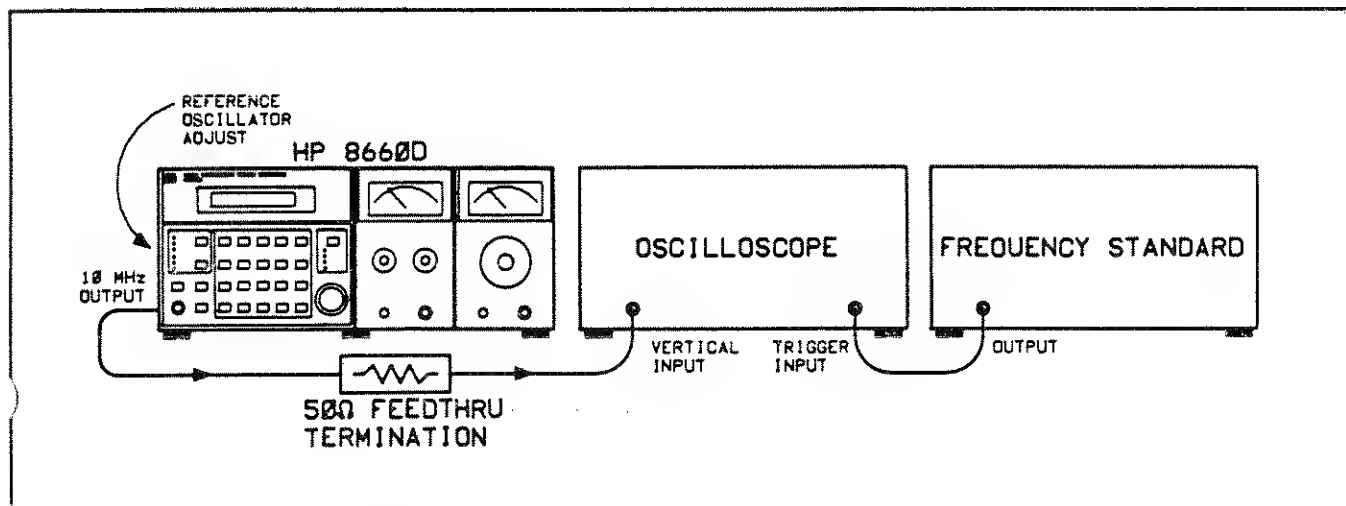

Figure 5-3. Reference Accuracy Adjustment Test Setup
1. Set up test equipment as shown in Figure 5-3.
2. Internal Reference Accuracy Adjustment (see Figure 5-3). (Allow adequate warmup time.)